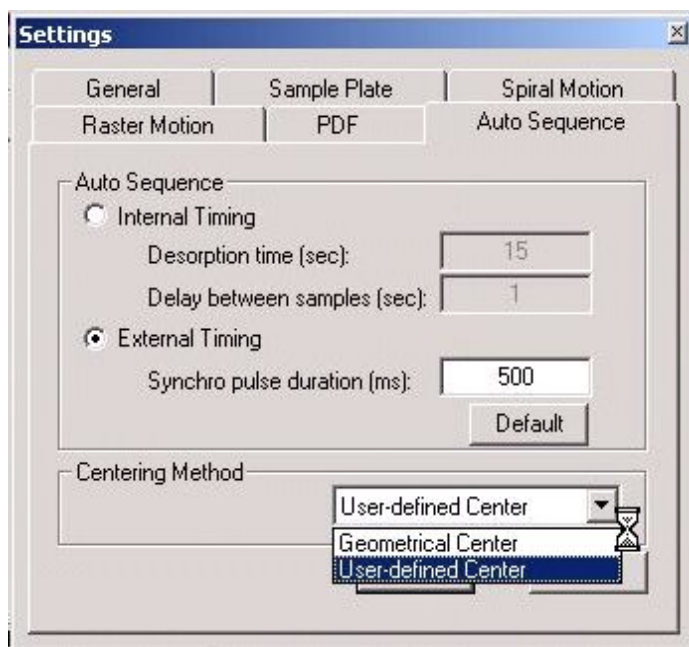

Fig. 7-24 Selection of sample Centering.
Different modes of AutoSequence are available (Fig. 7-24) and include: Geometrical Centering (Geometry) and User-defined Centering (Manual). The present modes are used to determine the center position of samples on a target plate.
5. **For the “Internal Timing” mode**, start “Continues” data acquisition/recording in Tune-plus program of Xcalibur package. Then click on the PLAY button in the *TARGET* software window to start AP/MALDI (PDF) operation. The data acquisition will start and continue during the time specified for the spot (“Desorption time” in Fig. 7-24). When the data acquisition from the first sample is done, the laser firing is stopped and the target moves to the next sample spot. The *current* sample is indicated by a blinking color. The process will be repeated until the last sample spot has been analyzed. Finish the data recording in Tune-plus program.